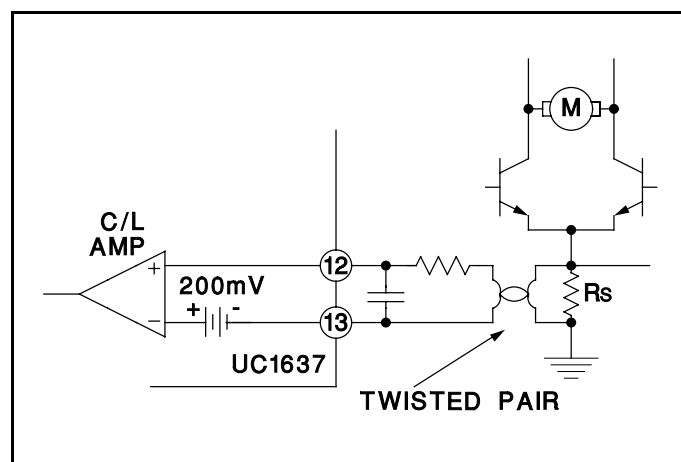

Figure 6. Current Limit Sensing
-Vs to within 3V of the +Vs supply while providing excellent noise rejection. Figure 6 shows a typical current sense circuit.